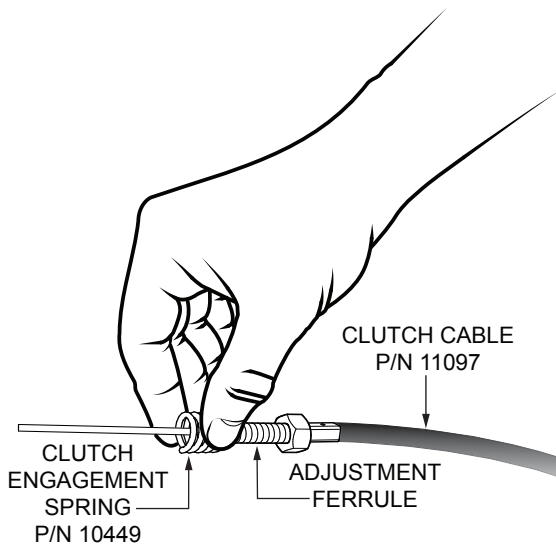

Figure 30. Clutch Engagement Spring Placement
- Place the clutch engagement spring (P/N 10449) onto the end of the clutch cable (P/N 11097). See Figure 30.